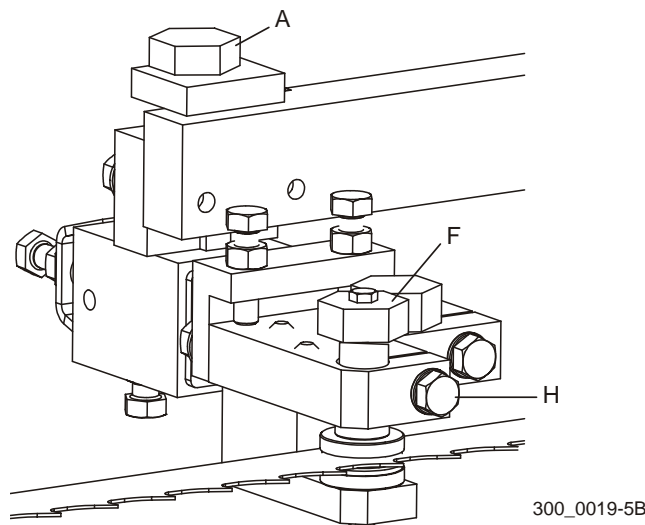

FIG. 7-49
See Figure 7-49. Turn bolt (F) counterclockwise to raise the top guide disk off the blade. Turn bolt (A) counterclockwise to lower the bottom guide disk.